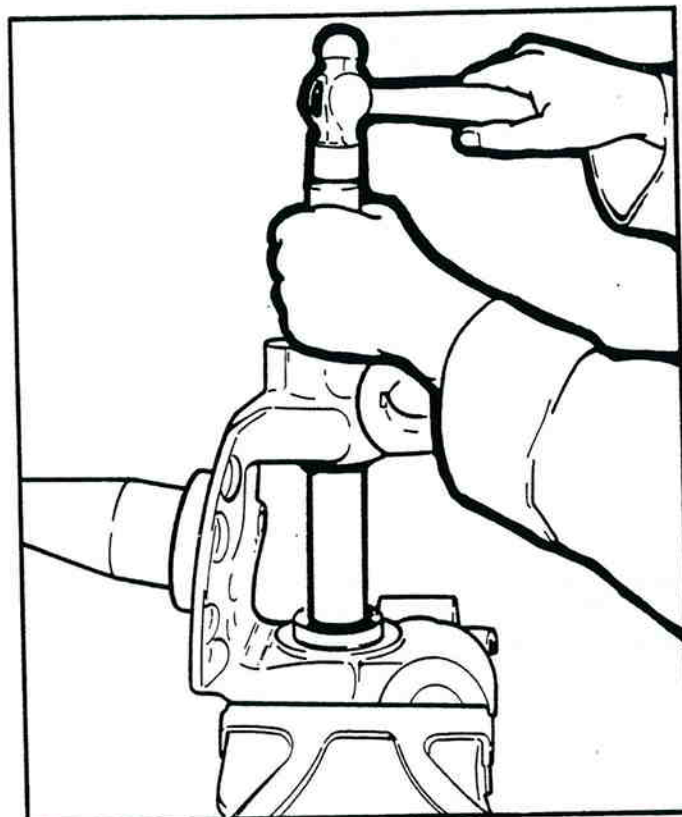

Figure 1-11. Installation of Grease Seal (Bronze or "Easy Steer" Bushed Knuckles).
3. Using a suitable sleeve and a bronze drift, tap the seal into the knuckle until it bottoms against the bushing or counterbore. See figure 1-11.